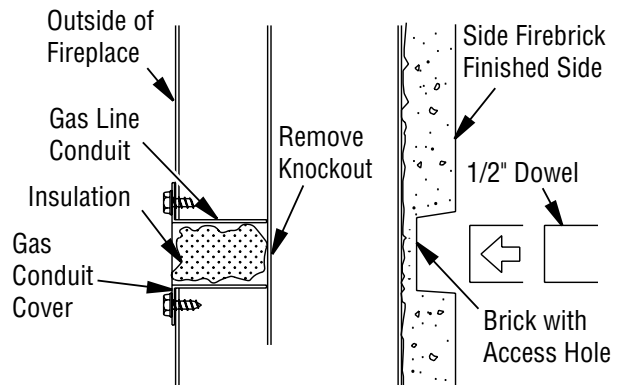

Figure 16 - Gas Line Access
1. Remove knockout indentation on refractory or firebrick wall located above refractory hearth floor. Knockout indentation must be firmly tapped with any solid object such as a 1/2" dowel until it is released. Remove fragmented portions of refractory (see **Figure 16**).